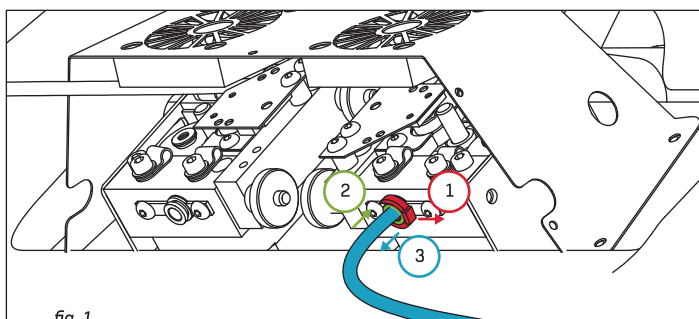

fig. 1
3. Pull out the bowden tubes from both extruders (fig. 1). To do that:
- remove the collet clip (fig. 1, step 1),
- push and hold the protective ring down (fig. 1, step 2), at the same time pull out the bowden tube (fig. 1, step 3).